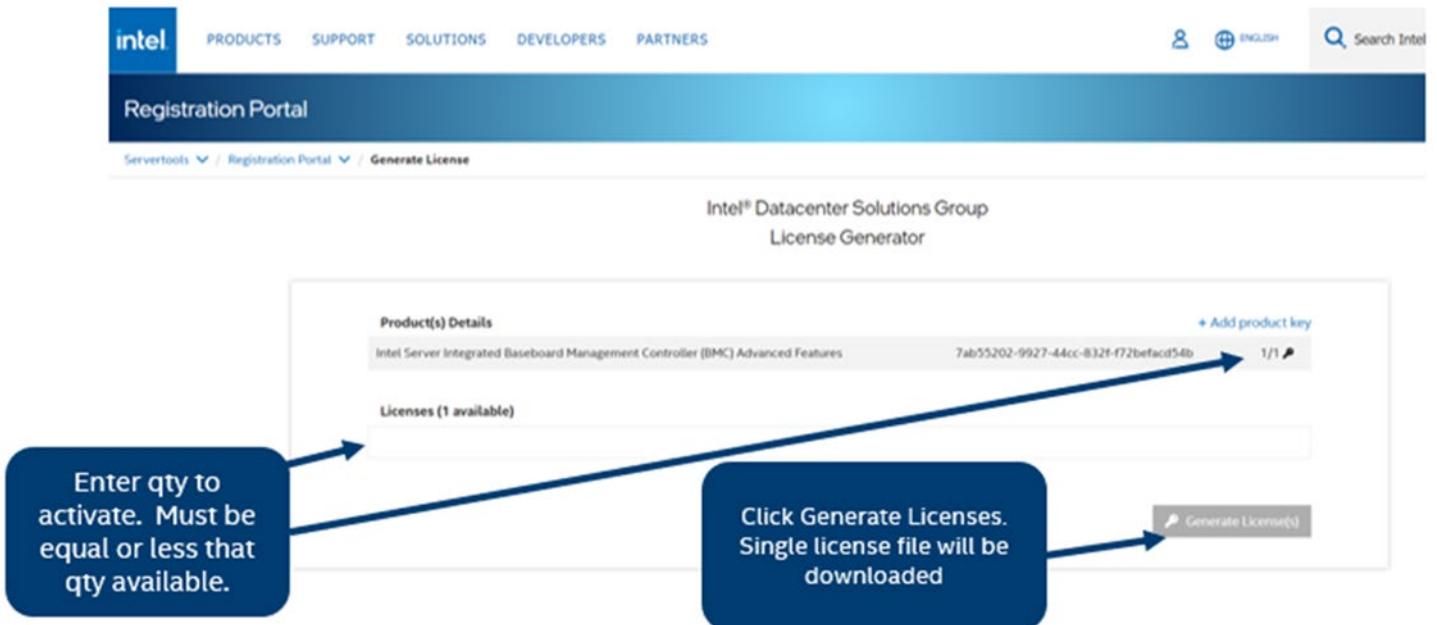

Figure 82. Activate Key for Advanced System Management (ASM) Key
6. Enter the number of Advanced System Management (ASM) licenses needed. It must be equal or less that the quantity available displayed on the right corner of the screen. Click on the “Generate License(s)” bottom to download the single license file. (see Figure 82)